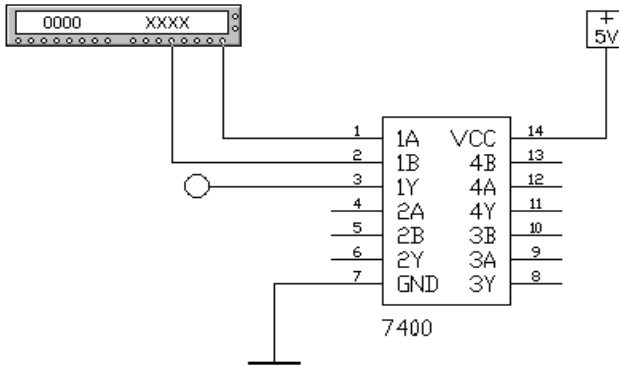

Figure 6.2 – Ship 7400
3. Draw a schematic diagram of Fig. 6.2.